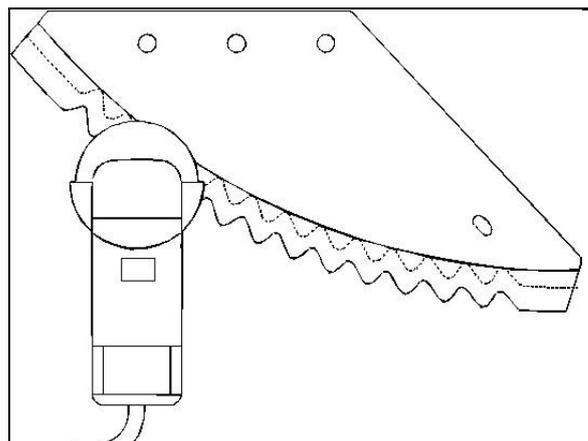

Fig. 118
- Use a right-angle grinder with a flap grinding wheel (Fig. 118) when grinding the cutting knives.